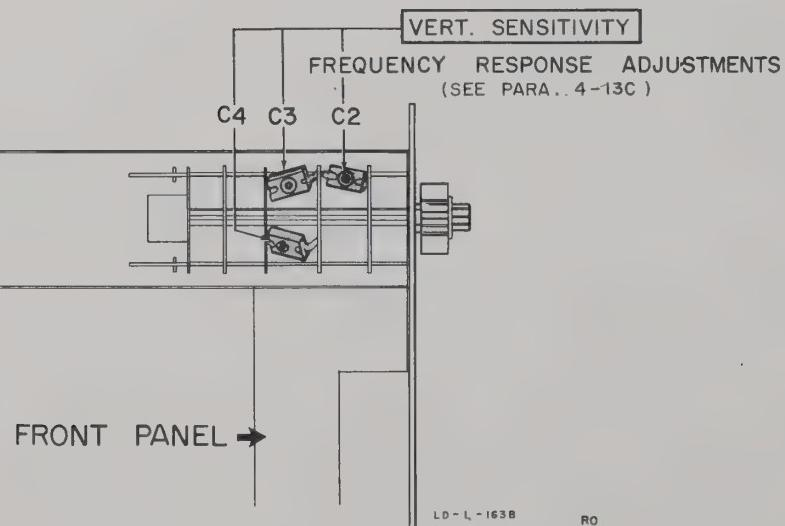
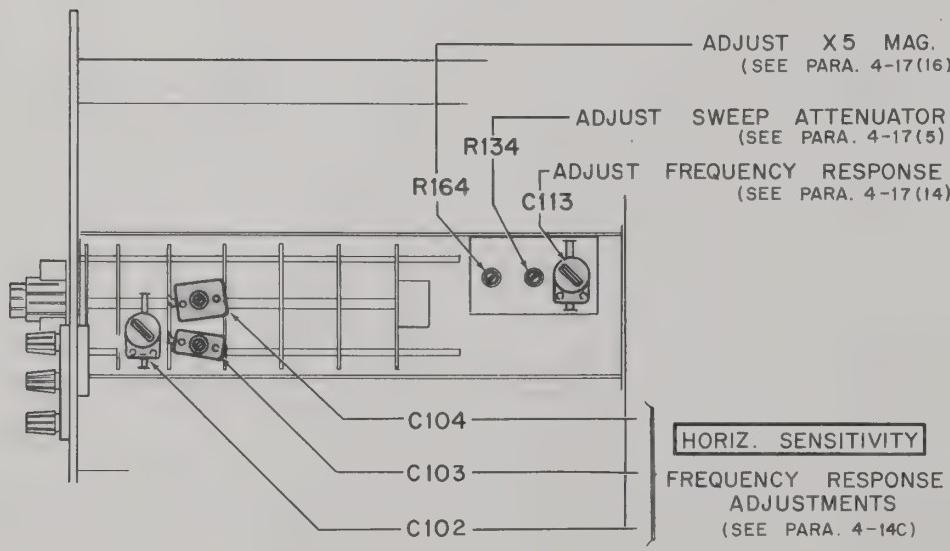

Figure 4-5. Vertical Amplifier Adjustment Location
Figure 4-6. Horizontal Amplifier Adjustment Locations
- 15) Check the gain calibration of the Vertical and Horizontal Amplifiers by setting the VERTICAL and HORIZONTAL SENSITIVITY selectors to CAL, and if necessary, adjusting R40 (Figure 4-5) to obtain 6 cm vertical deflection and R144 (Figure 4-6) to obtain 6 cm horizontal deflection on the trace; see paragraph 4-13B and 4-14B.
- 4) Adjust R40 (see Figure 4-5) to obtain exactly 6 centimeters deflection.
The following adjustments are located in the vicinity of the Vertical Amplifier or the VERT. SENSITIVITY switch as shown in Figure 4-5.
To adjust VERNIER balance, allow the instrument to warm up 15 minutes and adjust Vertical balance as shown by Figure 2-2. Then refer to Figure 4-5 and proceed as follows:
To adjust the Vertical Amplifier gain and frequency response refer to Figure 4-5 and proceed as follows:
To adjust frequency response of the input attenuator refer to Figure 4-5 and proceed as follows:
To adjust the Horizontal Amplifier, refer to Figure 4-6 and proceed as follows:
To adjust the VERNIER balance allow the instrument to warm up thoroughly and adjust Horizontal balance as shown by Figure 2-3; then refer to Figure 4-6 and:
To adjust the gain and frequency response, refer to Figure 4-6 and proceed as follows:
To adjust the frequency response at the input attenuator, refer to Figure 4-6 and proceed as follows:
VOLTS/CM	ADJUST (see Fig. 4-6)
The opening of the pattern, if any, should not exceed a tenth of a centimeter. If necessary to correct phase difference, adjust C114 for closure of the pattern (Figure 4-6).
To adjust the Sawtooth Generator and Sweep Amplifier refer to Figures 4-6 and 4-7 and proceed as follows:
- 5) Adjust R134, Sweep Attenuator, (Figure 4-6) and HORIZ. POS. for approximately 1 time marker/cm. This is a rather coarse adjustment. Set it as close as is practical. Then make the final adjustment with R261.
14) Adjust C113 near the HORIZ. SENSITIVITY switch, and C116 and C118 on the Horizontal Amplifier board (Figures 4-6 and 4-7), for best square wave presentation. Remove the wire between V206 pin 1 and the Vertical INPUT.
16) Set HORIZ. SENSITIVITY to INT. SWEEP X5, and adjust R164 (Figure 4-6), for markers 5 centimeters apart.